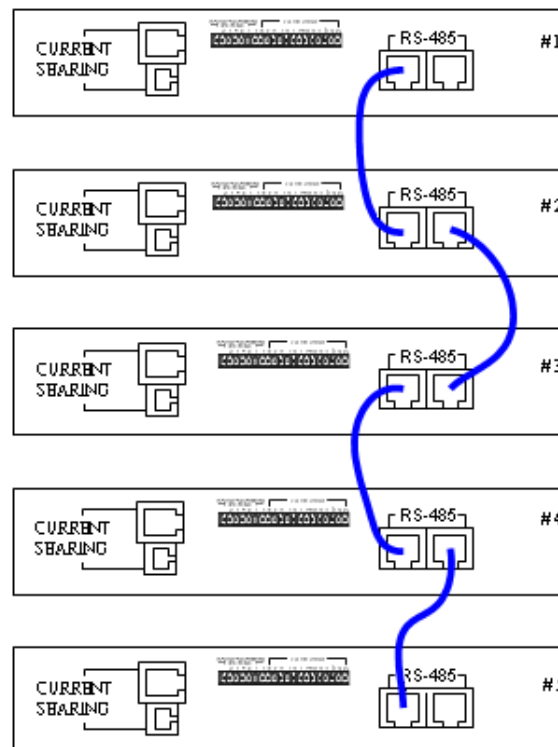
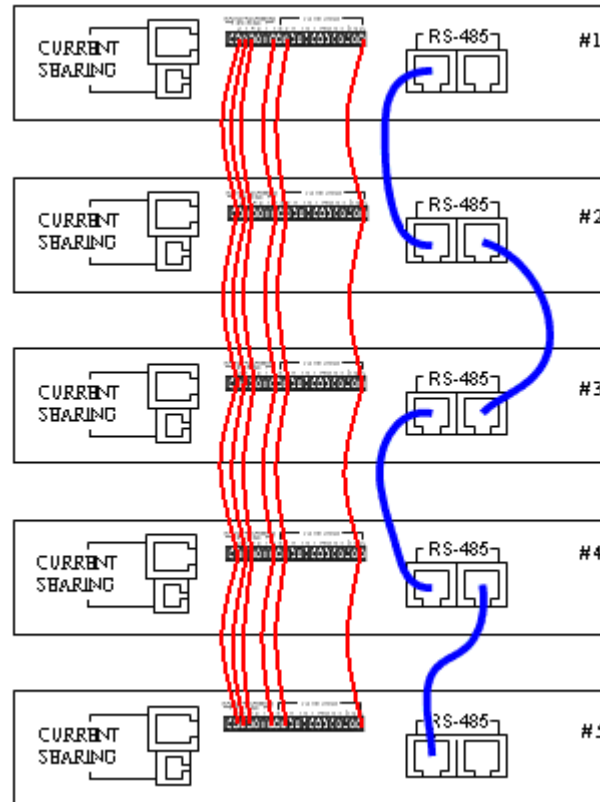
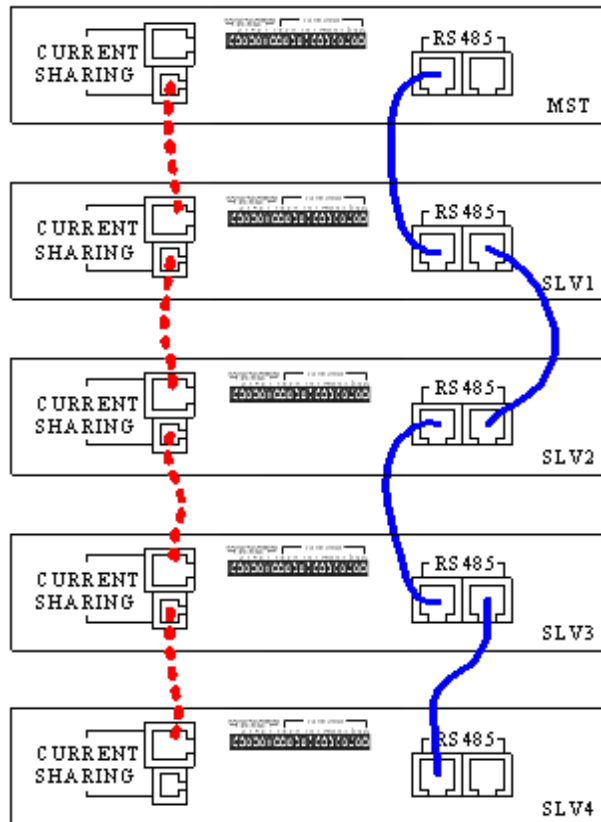
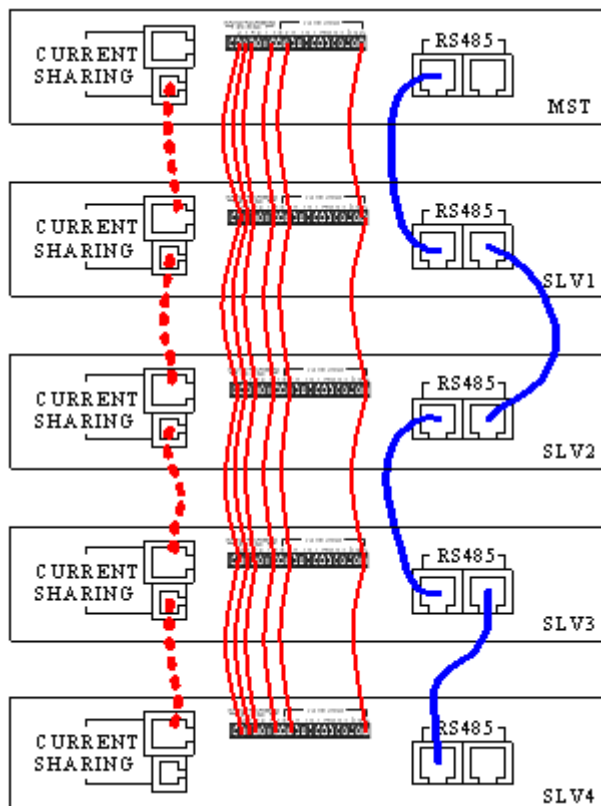

Figure 3-31
Figure 3-32
Figure 3-33
Figure 3-34
1. To operate the Power Supply in series, connect the RS-485 connectors on the rear panel as Figure 3-32 shows. If it is APG control, the PIN2, 3, 4, 7, 9 & 20 of the green signal connector on the rear panel have to connect to the green connector of next device as Figure 3-32 shows.
2. To operate the Power Supply in parallel, besides connecting the RS-485 connectors on the rear panel the CURRENT SHARING connector has to be connected as well as Figure 3-33 shows. If it is APG control, the PIN2, 3, 4, 7, 9 & 20 of the green signal connector on the rear panel have to connect to the green connector of next device as Figure 3-34 shows.
1. Each DC Power Supply has two RS485 interface female connectors. They need to be connected either in series or parallel operation. There is no difference between left and right; just to connect one after another as Figure 3-31 or Figure 3-33 shows in solid line.
2. Each DC Power Supply has two CURRENT SHARING connecting terminals in different outline. Connect the output terminal of the first Power Supply to the input terminal of the second Power Supply and so forth as Figure 3-33 and Figure 3-34 shown in dot line. Be sure to use the CURRENT SHARING communication cable provided by CHROMA.
Connect the cables on the rear panel as Figure 3-31 and Figure 3-32 show when set to SERIES, and as Figure 3-33 and Figure 3-34 show on the rear panel when set to PARALLEL.